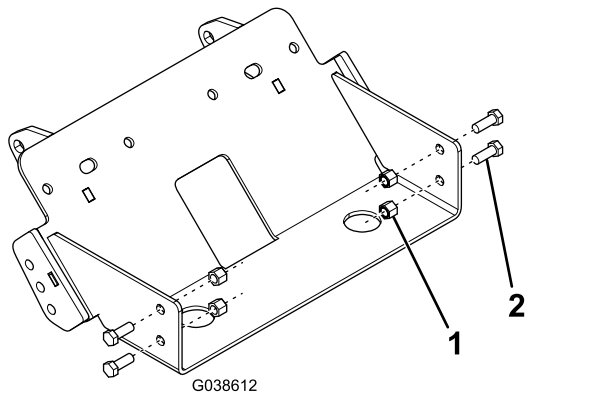

Figure 1
3. Secure the plow skid plate to the vehicle frame through the holes from the previous step using 4 bolts (3/8 inch) and 4 locknuts (3/8 inch), and leave the fasteners finger-tight (Figure 1).
4. Using the plow skid plate as a guide, clamp the vehicle bumper to the plow skid plate and drill out the 4 holes shown in Figure 1 to 7/16-inch.